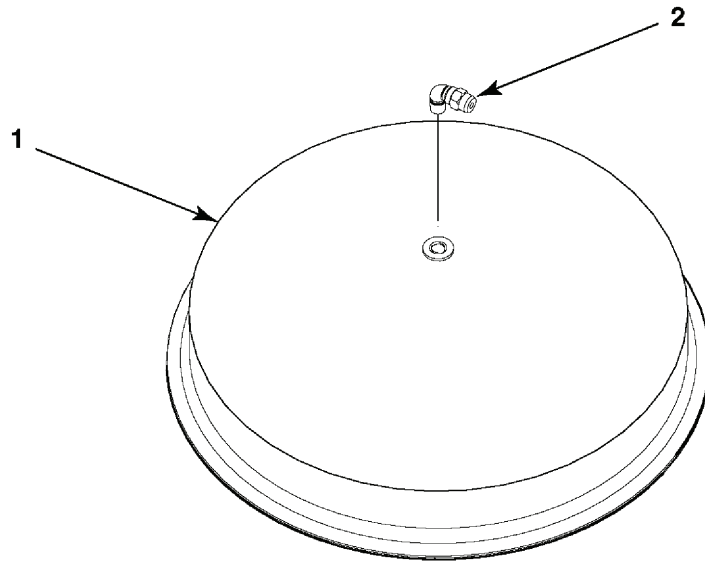

Figure 1. Purge Valve Replacement
Unscrew purge valve (figure 1, 2) from top of head assembly (1).